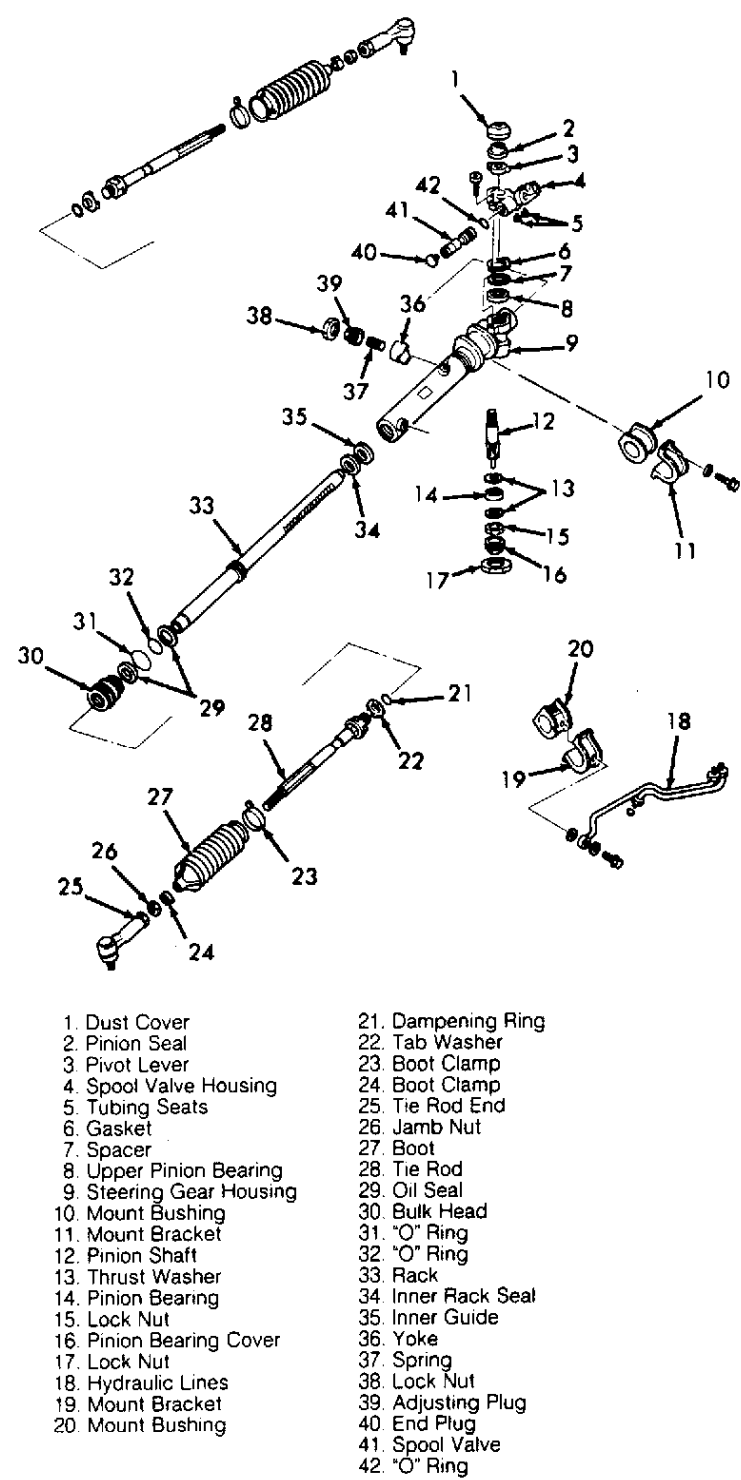

Fig. 1: Exploded View of Power Steering Gear (Capri)
1. Remove steering gear and place in soft-jawed vise. Remove external hydraulic lines. See Fig. 1 . Remove mount brackets and rubber mount bushings. Remove brass tubing seats using a self-tapping screw and 2 screwdrivers.